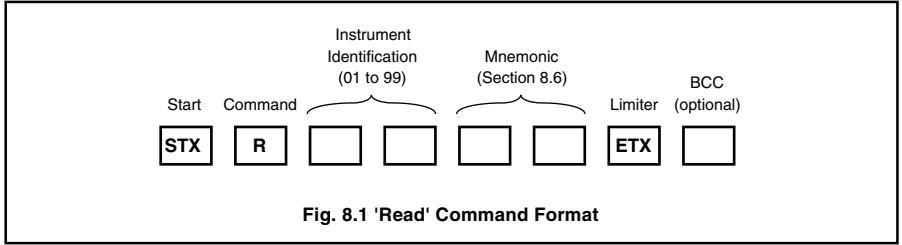

Fig. 8.1 'Read' Command Format
– see Figs. 8.1 to 8.6 on pages 7 and 8.
8.2 Command Format – Figs. 8.1 to 8.3
The protocol is based on ANSI-X3.28-1976-2.5-A4. Entries are made directly from the host computer using the command format shown in Figs. 8.1 to 8.3.